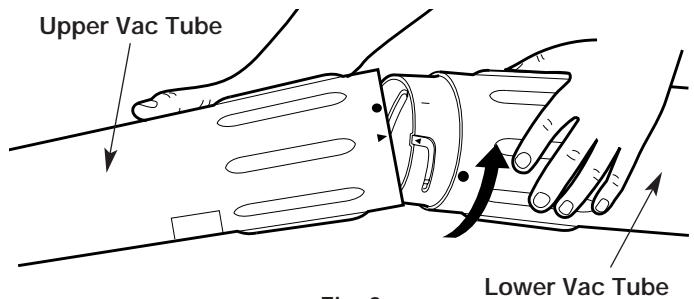

Fig. 2
1. Align the small arrow on the lower vacuum tube with the arrow on the upper vacuum tube (Fig. 2).